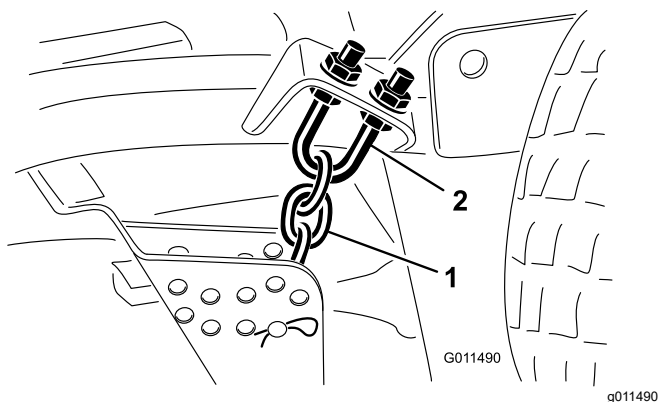

Figure 87
1. Loosen the jam nuts at the top or bottom of the height-of-cut chain U-bolt (Figure 87).